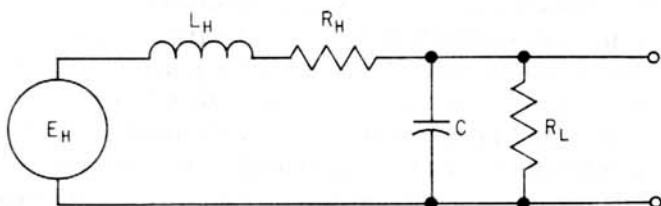
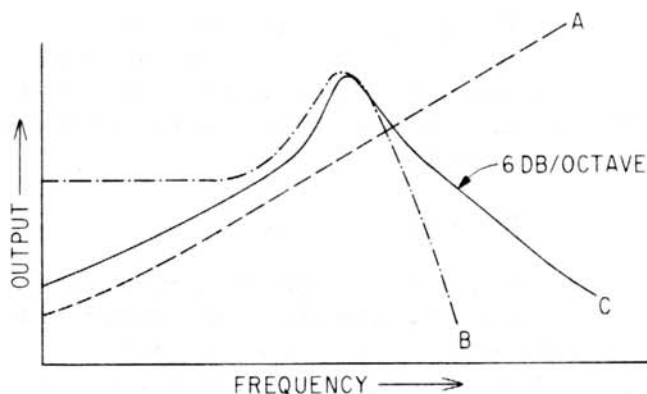

Fig. 5-2. Equivalent Circuit--Head and Input
Fig. 5-3 Head Output
An equivalent circuit of the reproduce head and amplifier input is given in Figure 5-2. In this illustration, the voltage output of the head (E_H) is shown working into a low pass filter consisting of the head inductance (L_H) and a capacitance (C) which can be distributed capacitance of the head winding, cable, and amplifier input. The Q of this filter is determined by the eddy current losses in the head and the resistance of the load (R_L). The output of the head itself rises 6 db per octave (curve A, Figure 5-3). Disregarding the effect of R_L , the response of the filter is indicated in curve B of Figure 5-3. Adding these two curves, the resultant output of the head is indicated by curve C of Figure 5-3.
As shown in Figure 4-5, if R_1 is small and the Q of the filter circuit is low, the resultant curve C of Figure 5-3 can be flattened to provide a relatively constant output. Instead of using a normal shunting resistor across the amplifier input--which would result in an unacceptable signal-to-noise ratio because of the high thermal noise associated with such a resistor--the same effective low input resistance can be achieved by using a high gain pre-amplifier with very heavy feedback. This creates a virtually noise-free shunting resistor at the amplifier input.